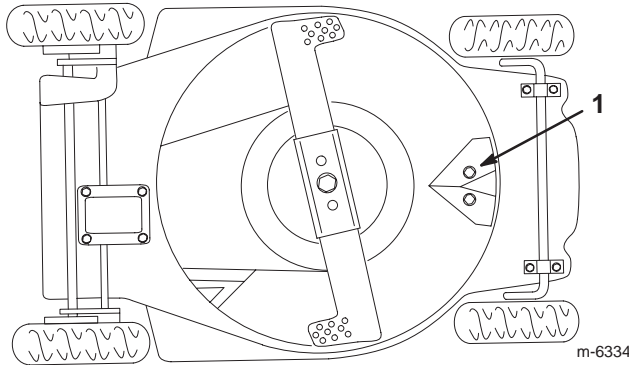

Figure 20
Keep the underside of the housing clean. Be especially careful to keep the kickers free of debris (Fig. 20).
4. Tip the lawn mower onto its **left** side (Fig. 20).